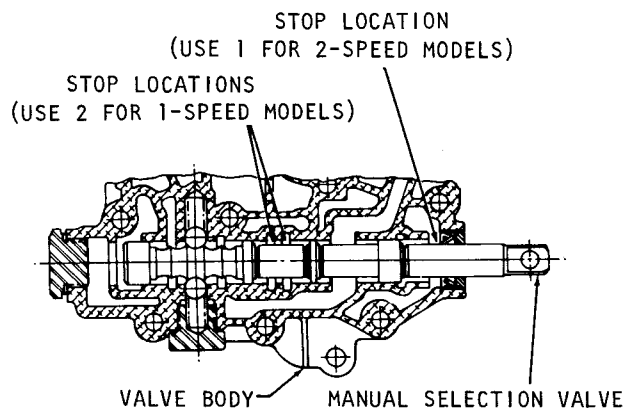

Fig. 6-31. Location of manual selector valve stops for various models
(1) During assembly, check to insure that all valves move freely by their own weight within their bores.
(2) If ball 10 and retainer 11 were removed, install a new ball and retainer. The cupped side of the retainer must be outward. Press the retainer in until it is flush with, to 0.010 inch below, the surrounding surface.
(3) If oil seal 26 was removed, coat the outer circumference of a new seal with nonhardening sealer and install it, spring-loaded lip first, into valve body 9. Press it in until it is flush with, or to 0.030 inch below, the surrounding surface.
(4) Install one spring 31 and one ball 28. Depress the ball against the spring and install selector valve 27, stem first, into the front of valve body 9. Work the stem of the valve carefully through oil seal 26 to avoid damaging the seal.
(5) Install the remaining ball 28 and spring 31. Install gasket 30 and detent plug 29.
(6) Install gasket 32, plug 33 and plug 34.
(7) Position selector valve 27 at neutral (central) position and install valve stop 12 at location(s) shown in figure 6-31.
(8) Install main-pressure regulator valve 8 (B, foldout 15), gasket 7 and plug 6.